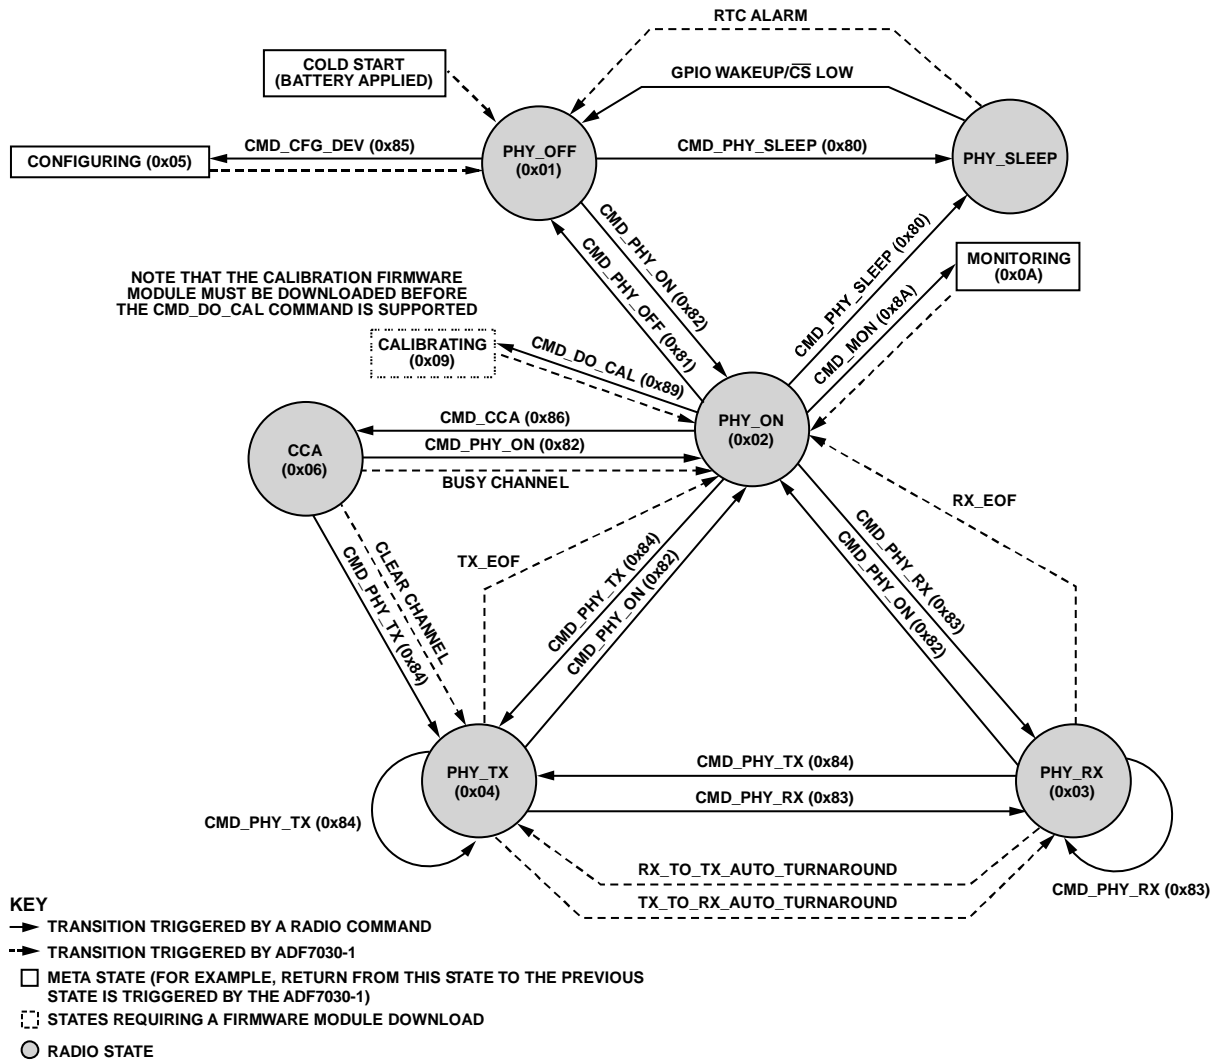

Figure 3. ADF7030-1 State Machine
The ADF7030-1 implements a state machine that the host controls via commands. The ADF7030-1 executes a transition from the current state to the next state in response to a command received from the host. These transitions are shown as solid lines in Figure 3. The ADF7030-1 also executes autonomous transitions, shown as dotted lines in Figure 3.
In the PHY\_TX state, the ADF7030-1 transmits the packet data. The ADF7030-1 can be configured to autonomously transition from the PHY\_TX state to the PHY\_ON state once the ADF7030-1 has fully transmitted the packet. This autonomous transition is labeled TX\_EOF in Figure 3. However, the ADF7030-1 can also be configured to autonomously transition from the PHY\_TX state to the PHY\_RX state (called Tx to Rx autoturnaround) after the ADF7030-1 has fully transmitted the packet. This autonomous transition is labeled TX\_TO\_RX\_AUTO\_TURNAROUND in Figure 3. The ADF7030-1 also supports transmission test modes including continuous carrier wave (CW) and pseudorandom binary sequence (PRBS) transmission. The host can command the ADF7030-1 to return to the PHY\_ON state by issuing a CMD\_PHY\_ON command in the PHY\_TX state. Any packet being transmitted at that time is aborted. The host can also command the ADF7030-1 to enter the PHY\_RX state by issuing a CMD\_PHY\_RX command. Any packet being transmitted at that time is aborted. The ADF7030-1 current in the PHY\_TX state depends on ADF7030-1 settings, such as transmission power and data rate. See the Transmitting and Receiving Packets section for more details on packet transmission.
In the PHY\_RX state, the ADF7030-1 receives packets. The ADF7030-1 can be configured to autonomously transition from the PHY\_RX state to the PHY\_ON state after the ADF7030-1 has received a packet (even if the received packet has an error such as CRC failure). This autonomous transition is labeled RX\_EOF in Figure 3. The ADF7030-1 can also be configured to autonomously transition from the PHY\_RX state to the PHY\_TX state (called Rx to Tx autoturnaround) after the ADF7030-1 has received a packet without error. If the programmed CRC length, CRC\_LEN in the GENERIC\_PKT\_FRAME\_CFG0 register, is 0, a received packet is assumed to be valid. This autonomous transition is labeled RX\_TO\_TX\_AUTO\_TURNAROUND in Figure 3. The host can command a transition from the PHY\_RX state to the PHY\_ON state without having to wait for the ADF7030-1 to receive a packet by issuing a CMD\_PHY\_ON command. Any packet being received at that time is aborted. The ADF7030-1 current in the PHY\_RX state depends on configuration settings such as data rate and packet format. See the Transmitting and Receiving Packets section for more details on packet reception.
In the CCA state, the ADF7030-1 continually measures the received signal strength indicator (RSSI) level and compares it against a configurable RSSI threshold, until the expiration of a configurable time interval. On the expiration of the time interval, the ADF7030-1 autonomously transitions from the CCA state to the PHY\_TX state if the measured RSSI did not exceed the threshold at any instant during the time interval. If, however, the measured RSSI did exceed the threshold at any instant during the time interval, the ADF7030-1 returns to the PHY\_ON state, when the time interval expires. These autonomous transitions are labeled clear channel and busy channel, respectively, in Figure 3. The result of the comparison is available for the host to interrogate. This functionality can be used by the host to support CCA functionality as specified in the IEEE 802.15.4g-2012 standard (Part 15.4) for MR-FSK. Note that packet reception is not possible during PHY\_CCA.
The format of a radio command that triggers the ADF7030-1 to execute a transition between states is shown in Table 4. The host sets the desired destination state in Bits[4:0]. The host must guarantee that the transition between the current state and the requested state is supported as shown in Figure 3. If an unsupported transition is commanded, the ADF7030-1 remains in the current state.